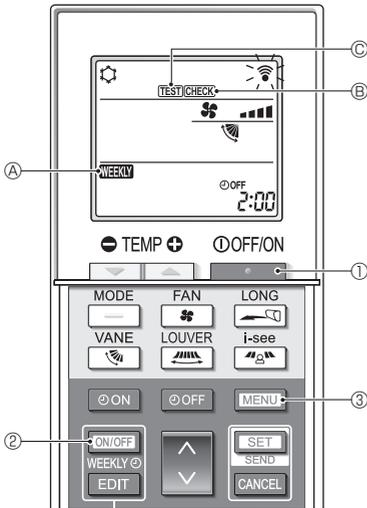

Fig. 7-1
7.1. Test run (Fig. 7-1)
- Press the **STOP** button ① to stop the air conditioner.
- If the weekly timer is enabled (**WEEKLY** ④ is on), press the **ON/OFF WEEKLY** button ② to disable it (**WEEKLY** ④ is off).
- Press the **MENU** button ③ for 5 seconds.
- CHECK** ⑤ comes on and the unit enters the service mode.
- Press the **MENU** button ③.
- TEST** ⑥ comes on and the unit enters the test run mode.